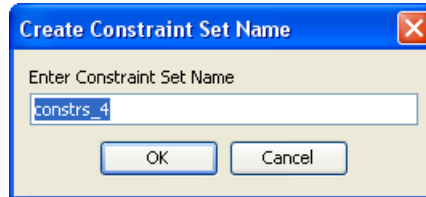

Figure 3-16: Create Constraint Set Name dialog box
Figure 3-16 shows the Create Constraint Set Name dialog box from the Add Constraints command.
1. In the **Add Constraints** dialog box, select the **Create Constraint Set** command in the **Specify Constraint Set** field, and enter a name for the constraint set, as shown in Figure 3-16.